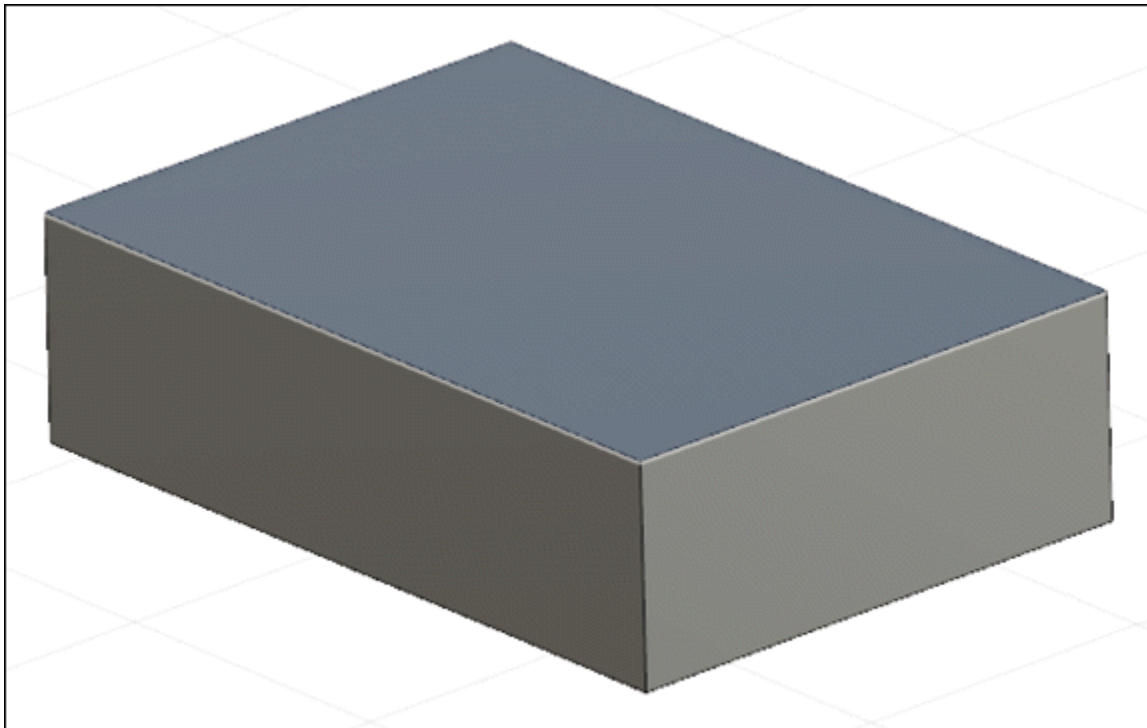

Figure-34. Flipped surface
- After selection of surfaces, click on the **OK** button from **REVERSE NORMAL** dialog box. The selected surfaces will be flipped; refer to Figure-34.